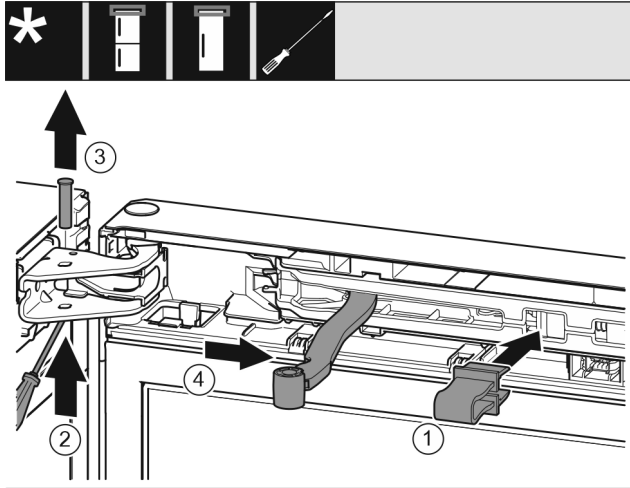

Fig. 8
- ▶ Engage the locking device in the opening. *Fig. 8 (1)*
- ▶ Unscrew the bolt with a screwdriver. *Fig. 8 (2)*
- ▶ Remove the bolt upwards. *Fig. 8 (3)*
- ▶ Turn the hinge in the direction of the door. *Fig. 8 (4)*